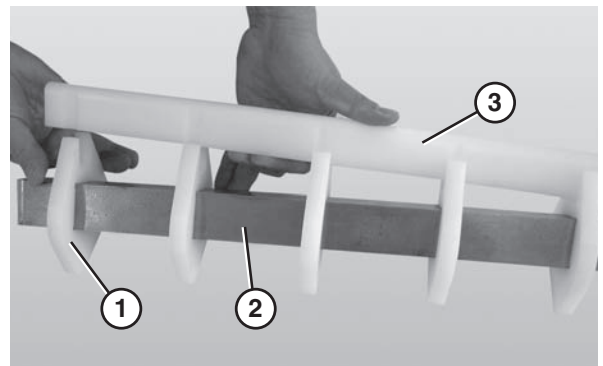

Figure 67
3. Remove the nose bar wear strip (**Figure 67, item 3**).
4. Slide the nose bar pucks (**Figure 67, item 1**) off the nose bar shaft (**Figure 67, item 2**).